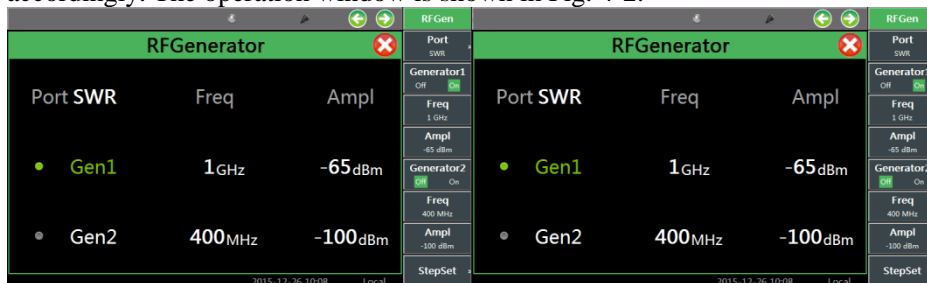

Fig. 4-2 RF Source and Modulation Source Window
- Open the window: open and select the RF source window by pressing the [Receiver] hard key or pressing the [Measurement] hard key and setting the instrument menu. When the RF source window is opened, the modulation source will be opened accordingly. The operation window is shown in Fig. 4-2.
- Internal audio modulation: for the internal audio signal, directly click the corresponding parameters in the window, or click the [Internal Audio Setting] in the right menu of the window to enter the menu of next level to set the internal audio modulation. As shown in Fig. 4-2, the modulation source is “Internal Audio”, the modulation type is “AM”, and the modulation depth is “30%”.